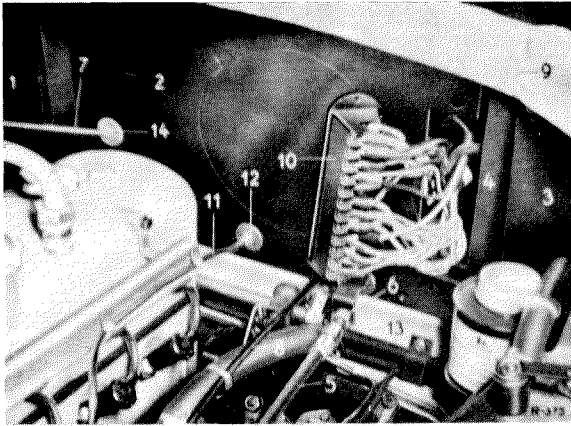

Fig. 42 — 15/6
The air cleaner element in the end plate of the ATE Power Brake T 50 should be replaced every 16 000 km. The air cleaner element can be taken out after removing the exterior snap ring (8) and the hair retainer (Fig. 42 — 15/6).